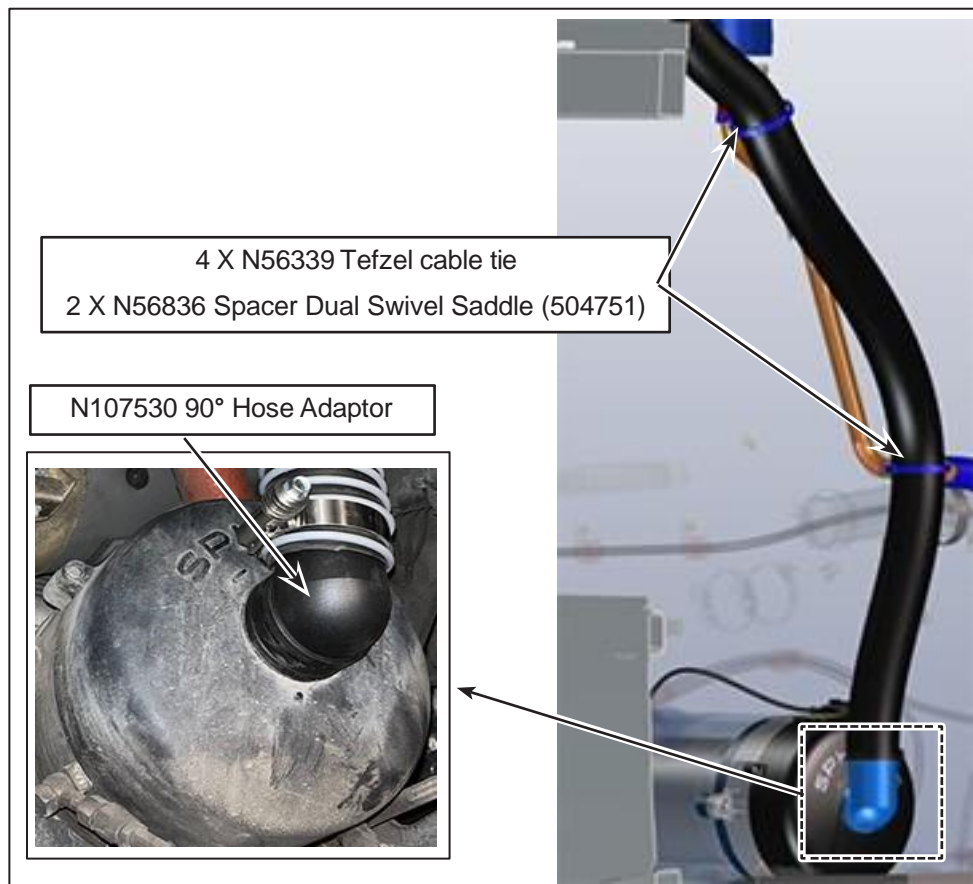

Figure 6 - Snorkel Hose Affix to the Auxiliary Heater and Coolant Pipe
- 1.14. Affix the N107530 90° hose adaptor to the auxiliary heater. See Figure 6.
- 1.15. Affix the N111828-03 hose to the coolant pipe using N56339 Tefzel cable ties and N56836 (504751) Spacer dual swivel saddle. See Figure 6.
The 90° adaptor N107530 and the hose N111828-03 must be free of contact or interference with other components in the engine compartment and positioned as shown in figure 6.